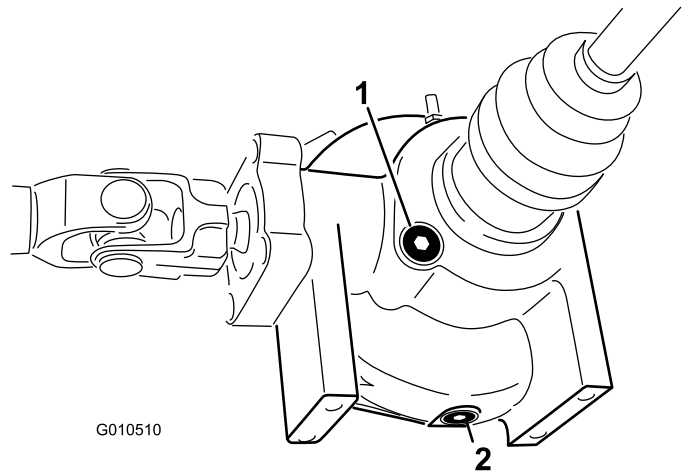

Figure 21
- Clean the area around the fill/check plug on side of the differential (Figure 21).